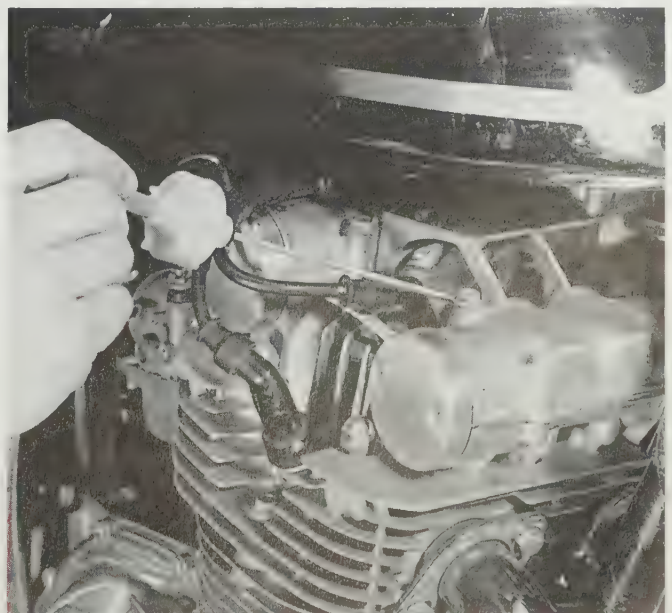

Figure 20-78. A stethoscope is helpful in determining the origin of a particular engine noise. Any noise will be loudest at its source.
- Listen for unusual noises by using a stethoscope as in **Figure 20-78**.